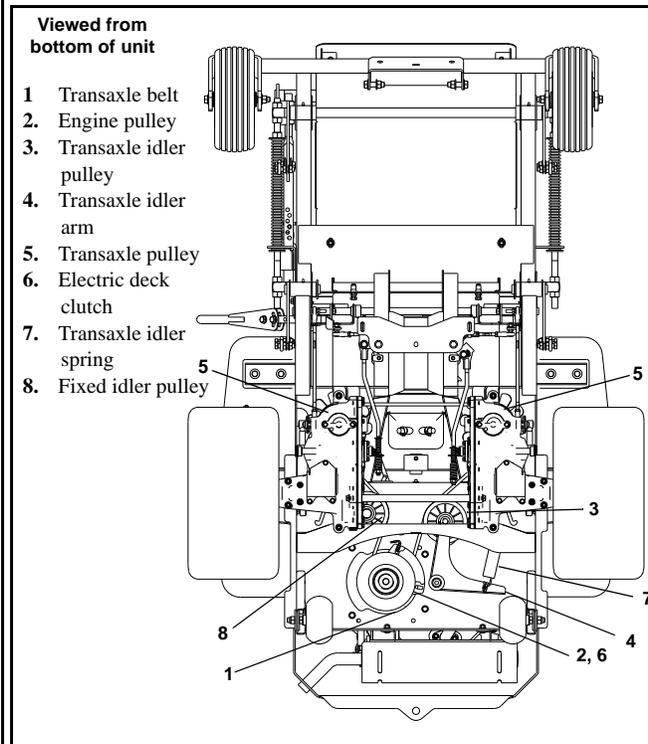

FIG. 52
5. Release the tension from the transaxle belt by pulling on the idler pulley (extending spring carefully) and sliding the belt over it. Use caution when releasing the idler pulley as there is still tension on it and it will snap back into position (FIG. 52).